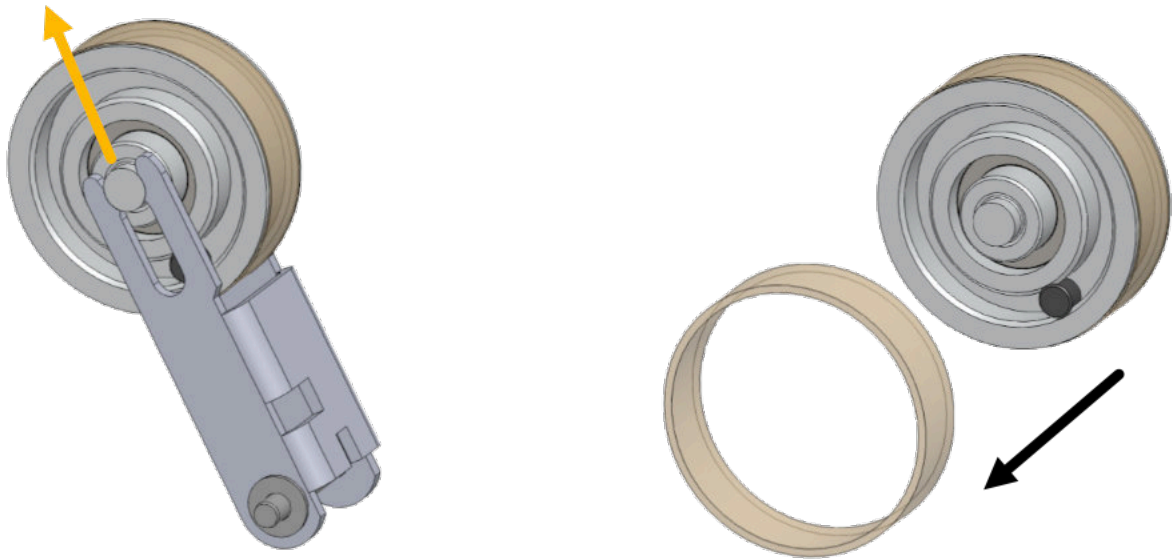

Fig. 4.9.2
4. Pull the wheel out of the holder fig 4.9.2